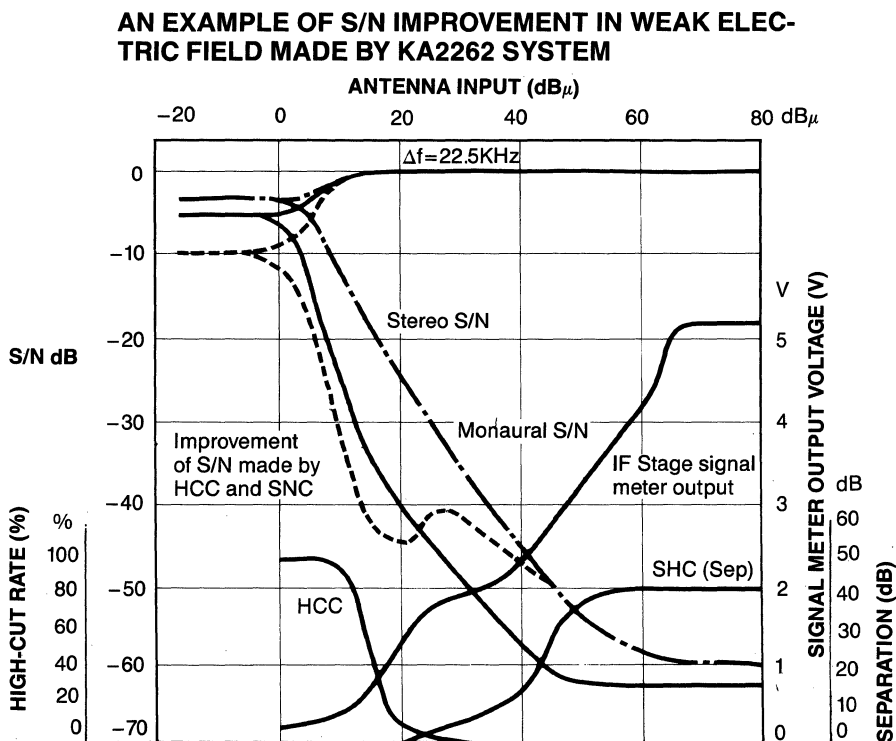

Fig. 3
The output of meter of IF amplifier IC used for quadrature detection is usually the one shown in Fig. 4. (Fig. 3 shows the data of KA22441). Thus, the HCC characteristics (Fig. 10) are set so that the Area B may be ameliorated when the output mentioned above is directly connected with the HCC Terminal (Pin 7) of KA2262.
In Fig. 3, is shown an example of S/N-ratio characteristics caused from the antenna input when SNC and HCC are connected with the IF stage through the outer circuit shown below.
5. Improvement of S/N Ratio in Area C shown in Fig. 3
In Area C shown in Fig. 3, the S/N ratio is further worsened. Its improvement should be performed by the IF muting. The KA22441 can be enumerated as an IC which can vary this IF muting linearly. The S/N-ratio improvement effect of KA2262 can further be enhanced if KA2262 is used together with KA22441.